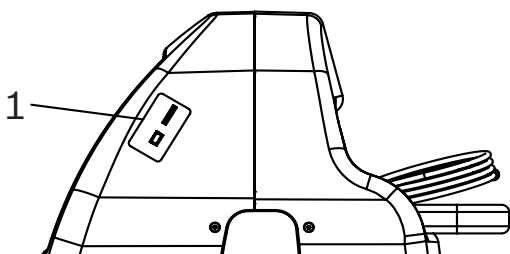

Fig. 9: Insert SD card containing new or updated language
3. Insert the SD card containing the language data into the side panel (Fig. 9) on the AC690PROyf.